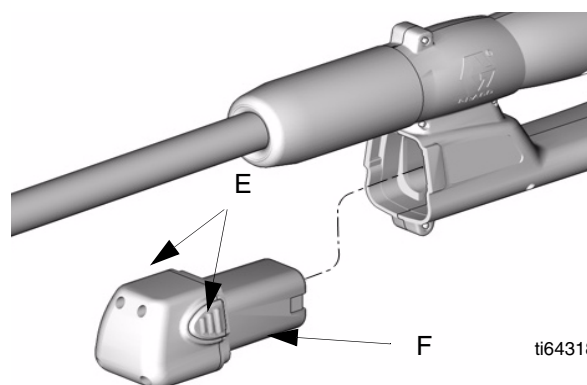

FIG. 20
1. Remove the battery by pressing in on both battery lock buttons (E) and pulling the battery (F) out and away from the meter. See FIG. 20.
3. Replace the battery by pressing in on both battery lock buttons (E) and pushing the battery (F) into the meter.